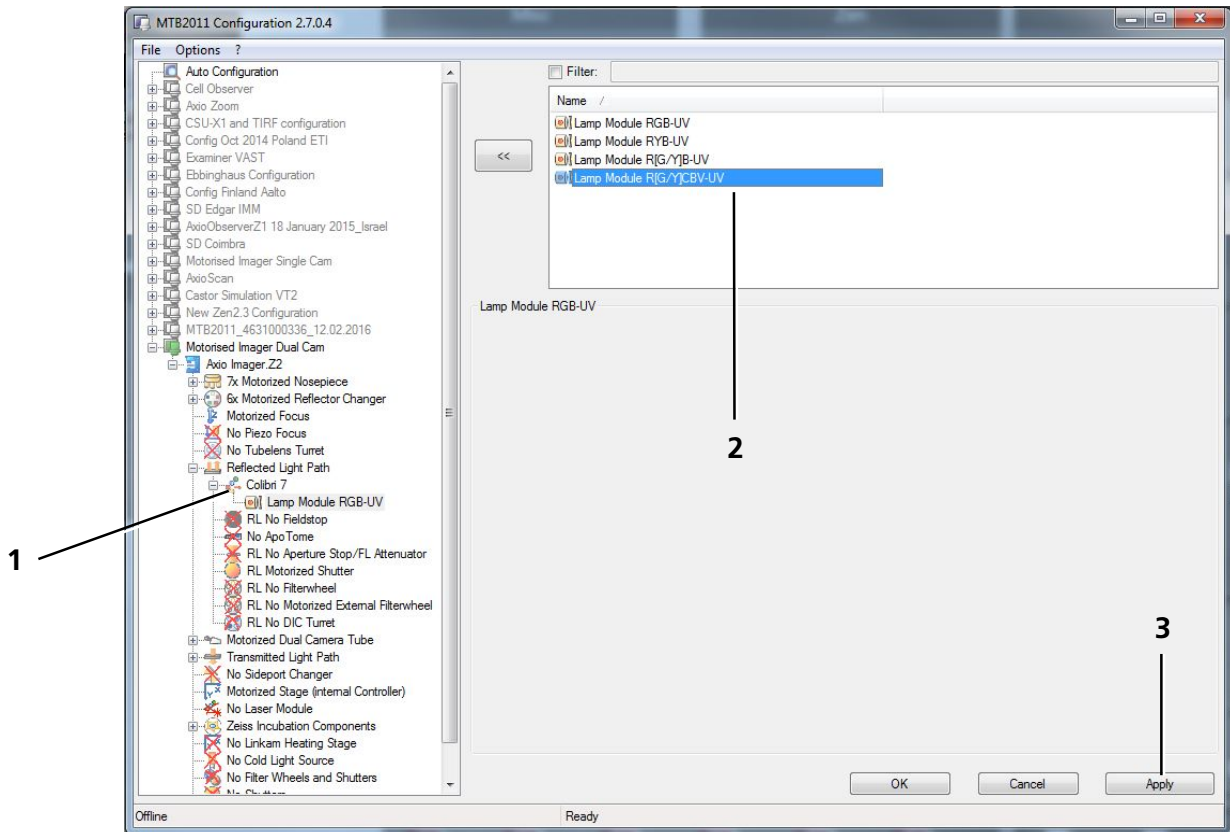

Fig. 12 MTB – Configuring the lamp module type
- Click on the lamp module entry in the **Colibri** directory (Fig. 12/1)
- Select the name of the installed lamp module in the selection window of lamp modules (Fig. 12/2).
- Then click on **Apply** (Fig. 12/3).